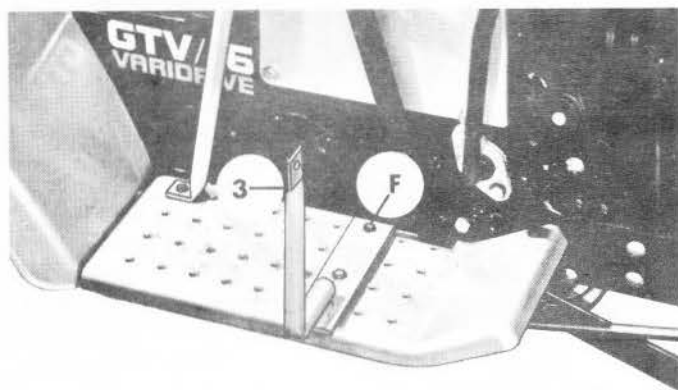

FIGURE 8
STEP 7: SEE FIGURE 8:
A. Use two BOLTS (22) and NUTS (20) to attach PART 3 to the third row of holes from the front of step plate (refer to "F").